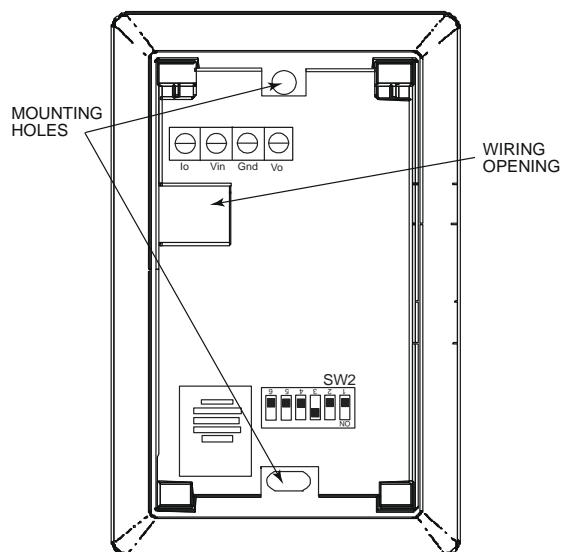

Fig. 96 — Space Relative Humidity Sensor Installation
If the sensor is installed directly on a wall, install the humidity sensor using 2 screws and 2 hollow wall anchors (field supplied). Do not over tighten screws. See Fig. 96.
1. At the sensor, remove 4 inches of the jacket from the cable. Strip $\frac{1}{4}$ inch of insulation from each conductor. Route the cable through the wire clearance opening in the center of the sensor. See Fig. 96.